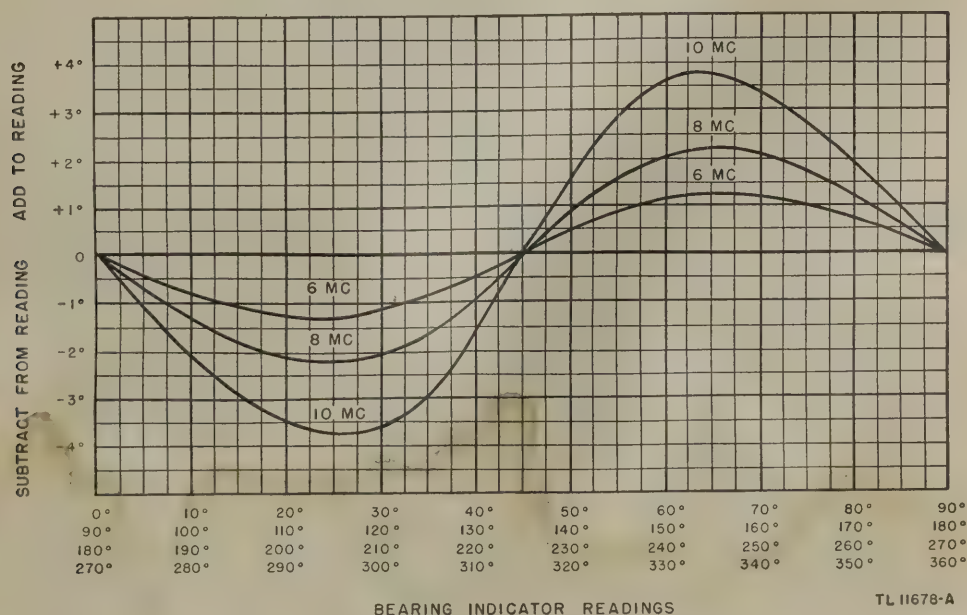

Figure 113. Octantal error curves, 5 to 10 megacycles.
*a. FOR 1.5- TO 10-MC RANGE.* An error, known as octantal error, is characteristic of Radio Set SCR-291-A. The error is a function of the spacing between the monopoles in the antenna array. At frequencies below 6 mc, octantal error is small and may be neglected. For frequencies above 6 mc, however, the error is greater than  $1^\circ$  and the octantal error curves (fig. 113) must be used.
*Example 1*—The bearing indicator shows a bearing of  $100^\circ$  for a 10-mc signal. The 10-mc curve (fig. 113) shows that  $100^\circ$  bearing at 10 mc must be corrected by subtracting  $2.1^\circ$  from the indicator reading. Thus, the corrected azimuth true bearing is  $97.9^\circ$ .
*Example 2*—The bearing indicator shows a bearing of  $30^\circ$  for a 9-mc signal. Since there is no 9-mc curve drawn in figure 113, it is necessary to interpolate. If drawn, the 9-mc curve would fall midway between the 8- and 10-mc curve; consequently, the 9-mc curve would cross the  $30^\circ$  line at  $-2.8^\circ$ , and the true bearing is  $30^\circ - 2.8^\circ$ , or  $27.2^\circ$ .